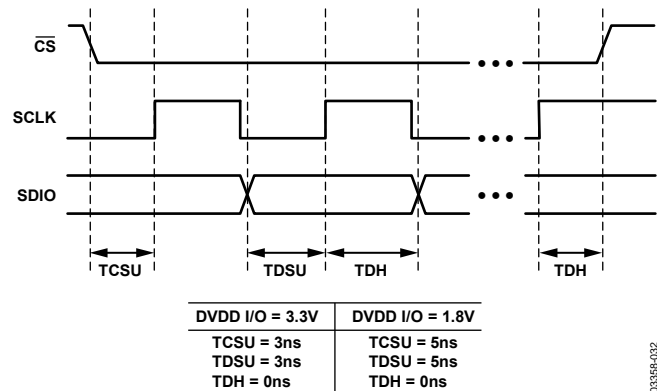

Figure 27. Serial Port I/O Setup (TCSU, TDSU) and Hold (TDH) Times
**$\overline{\text{CS}}$** —Chip Select Bar.  $\overline{\text{CS}}$  is active low input that allows more than one device on the same serial communication line. The SDO pin and SDIO pin go to a high impedance state when this input is high. If driven high during any communication cycle, the cycle is suspended until  $\overline{\text{CS}}$  is reactivated low. Chip select can be tied low in systems that maintain control of SCLK. When toggling  $\overline{\text{CS}}$ , it is important that care is taken to meet the clock setup time with respect to the falling edge of  $\overline{\text{CS}}$  and TCSU (see Figure 27).
**SDIO**—Serial Data I/O. Data is always written into the AD9952 on this pin. However, this pin can be used as a bidirectional data line. Bit 9 of Register 0x00 controls the configuration of this pin. The default is Logic 0, which configures the SDIO pin as bidirectional. In order to guarantee proper serial I/O port operation (see Figure 27), data on this pin must be set up and held to the rising edge of SCLK on read operations.